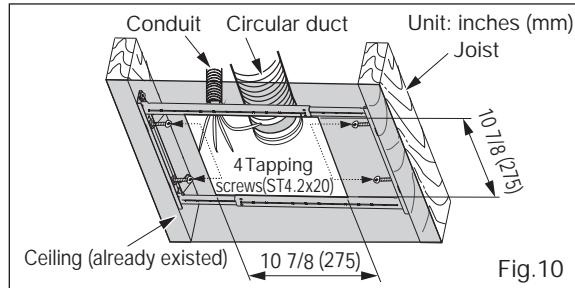

Fig.10
1. Remove the existing fan and cut ceiling opening. Secure the Flex-Z Fast™ bracket to joists by drilling 4 tapping screws (ST4.2x20) which have been fixed on it. Existing ductwork and wiring left in place. (Fig.10)